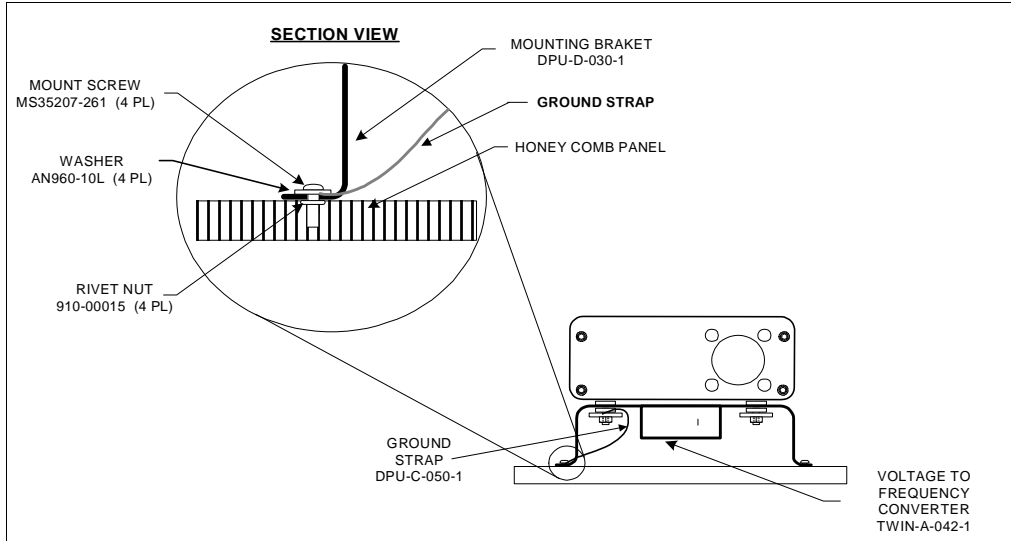

Figure C- 3: Bracket to Avionics Tray Mounting
- ❑ 040 Mount the system processor and bracket to the avionics tray using four screws and four washers as shown in Figure C- 3. Note: The processor may be mounted as shown or upside down (180° from the orientation shown).